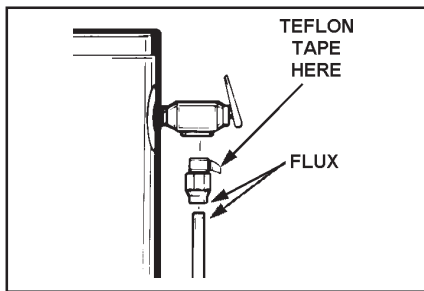

FIGURE 24.
10. Flux the ends of the length of pipe cut for the T & P line and the inside of the 3/4" male threaded to sweat connector. Then solder this assembly together. Do not screw the connector into the Temperature-Pressure Relief Valve before the assembly is soldered together, see Figure 24.
11. Using your pipe wrench, screw the assembly into the Temperature-Pressure Relief valve, see Figure 24.